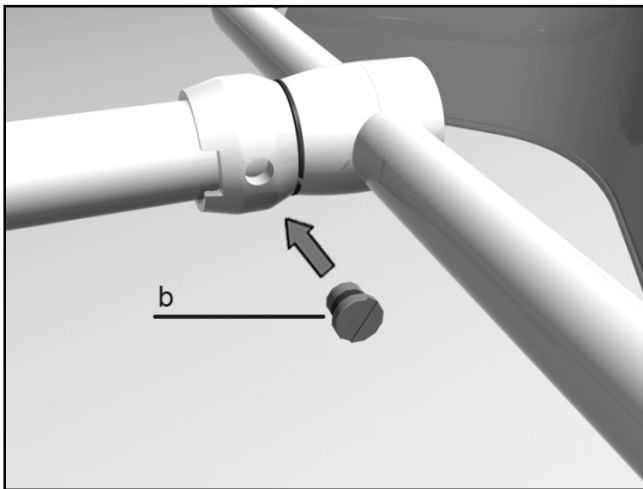

Figure 6
10. Thread the brake screw (b) into the collar as shown in figure 6 and tighten it until the rotating joint has the desired friction.